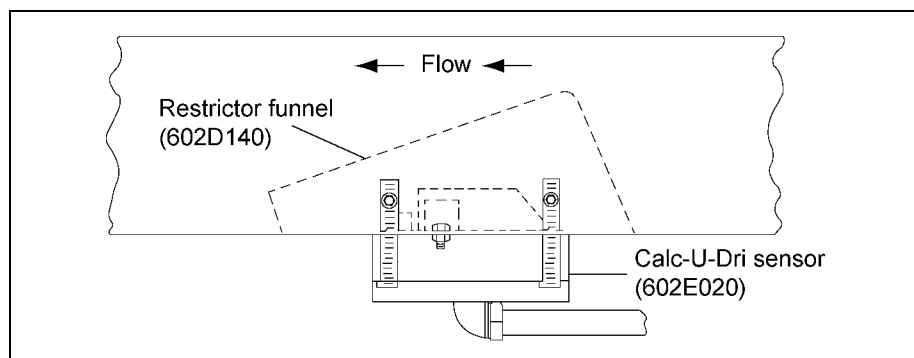
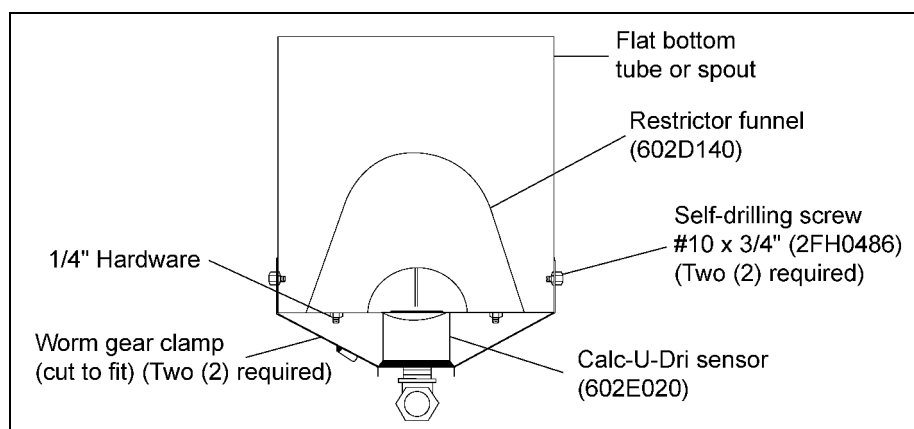

Figure 4L Side View
Figure 4M
- Secure the restrictor spout to the flat bottom with 1/4" hardware. Secure the sensor by cutting the end off of the strap and mounting with a self-drilling screw to the edge of the flat spout. Attach the screw end of the clamp on the other side of the flat spout with a self-drilling screw. (See Figure 4L and Figure 4M.)